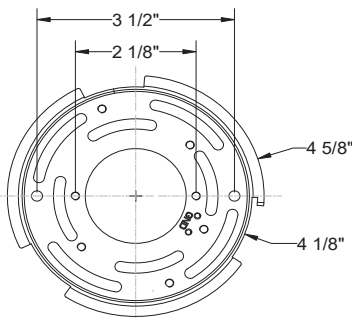

Fig. 2 Wiring
### CONNECTING THE WIRES (Fig. 2)
6. Cut the extra wire. Connect the driver's input wires to junction box wires as shown in Fig. 2, making sure that all wire connectors (A) are secured. If your outlet box has a green or bare copper ground wire, connect the fixture's ground wire to it. Otherwise, connect the fixture's ground wire directly to the mounting plate using the green screw provided. After wires are connected, tuck them carefully inside the junction box.
7. Place the fixture over the mounting ring and secure with mounting screws (B).